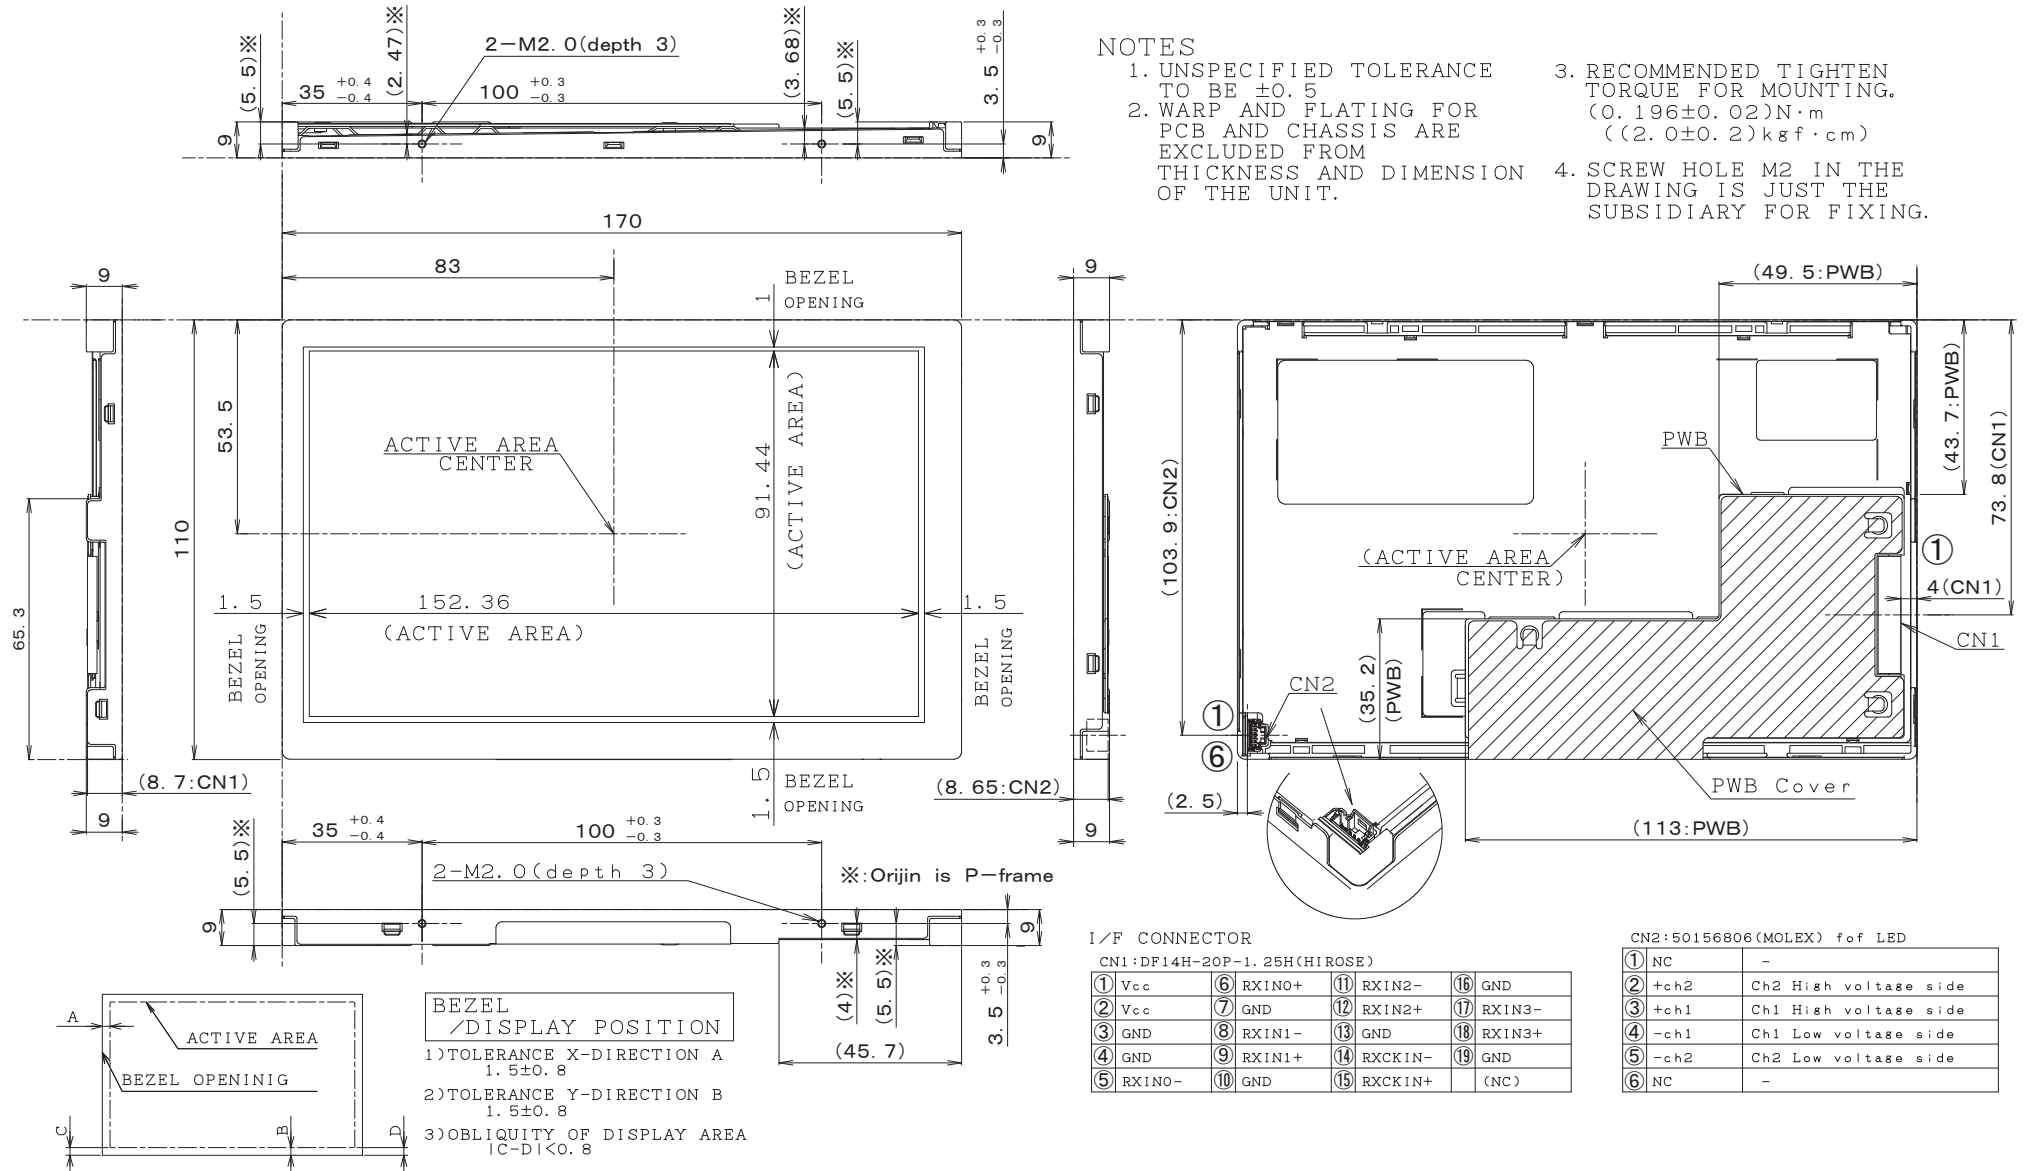

Fig. 1 OUTLINE DIMENSIONS
- t) Screw hole M2 in the Fig.1 is just the subsidiary for fixing.